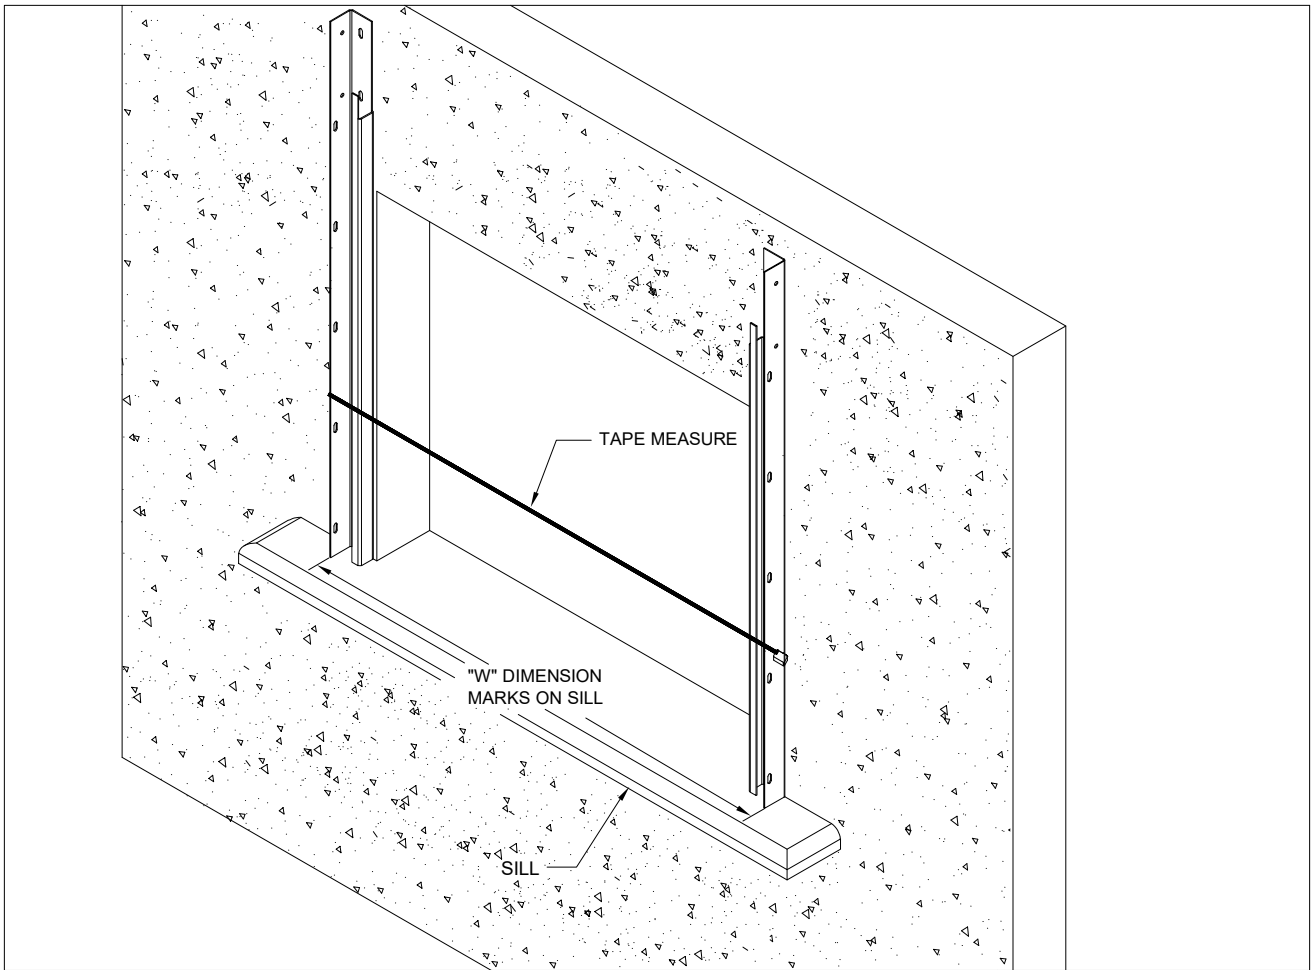

FIGURE 7
- d. Install second wall angle by placing it at the "W" dimension marked on the sill at the second jamb as shown in Figure 7. Shim if necessary.
- e. Use a tape measure while attaching the second wall angle to maintain a consistent "W" dimension all the way to the top as shown in Figure 7.